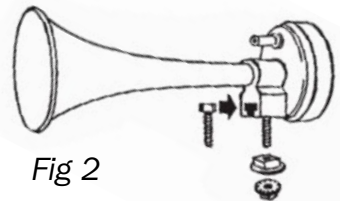

Fig 2
3. Next position each trumpet inside your bonnet. For mounting each trumpet, you will need to drill a 1/4-inch hole. When mounting each trumpet, ensure you position each trumpet with the open end facing downwards as this will prevent water getting inside. Use mounting hardware reference shown in Figure 2 for when mounting the trumpet.